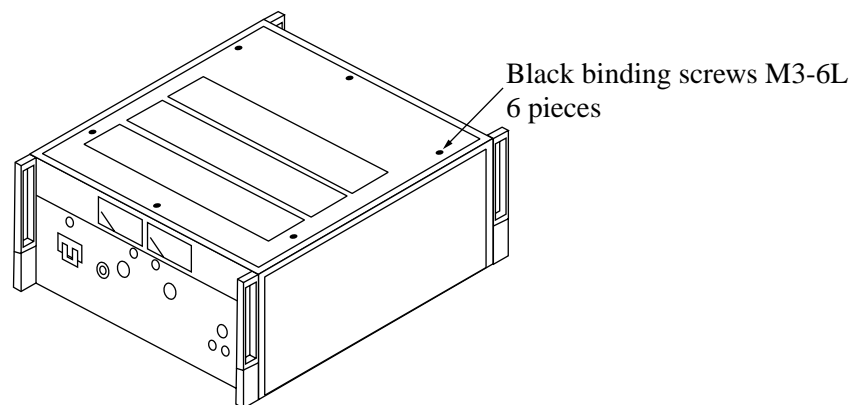

Fig. 6-12 Removing the top cover from the TYPE III model
1. Remove the top cover from the unit. See Fig. 6-12.